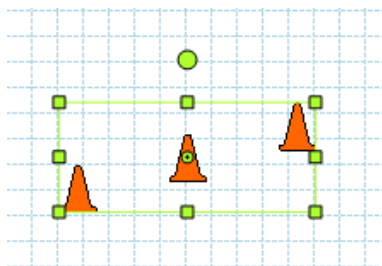

Figure 122. Selected Symbols
1. Press **Ctrl** and then click each symbol to be group together, as shown in Figure 122.